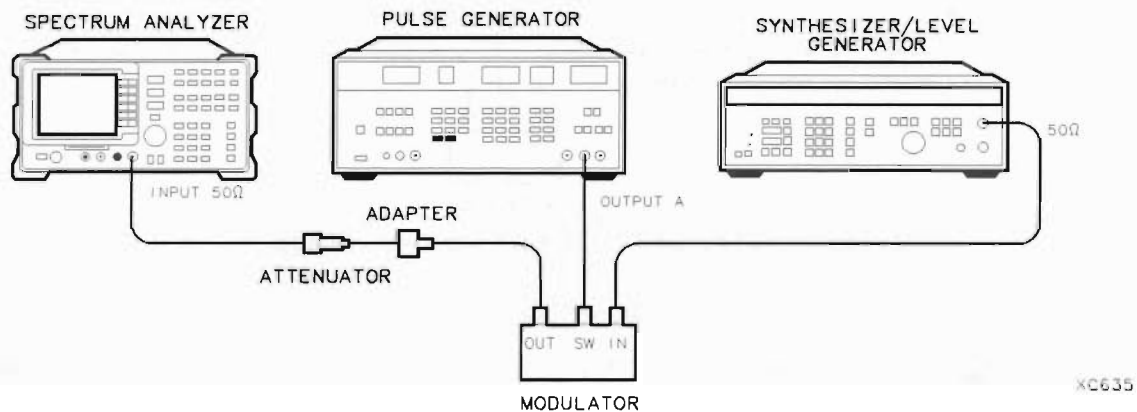

Figure 2-102. Isolation Check Test Setup
- Connect the equipment as shown in Figure 2-102.